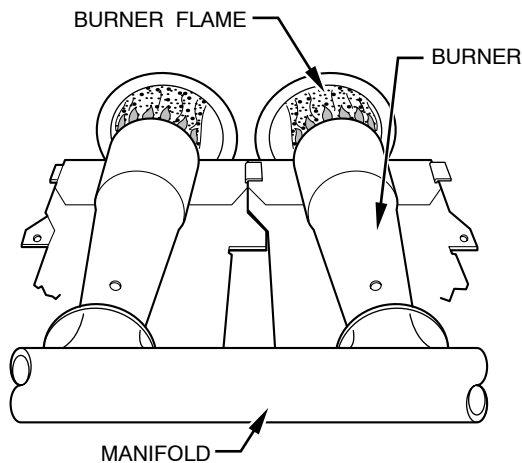

Fig. 61 - Burner Flame
- i. When correct input is obtained, replace caps that conceal gas valve regulator adjustment screws. Main burner flame should be clear blue, almost transparent. (See Fig. 61.)